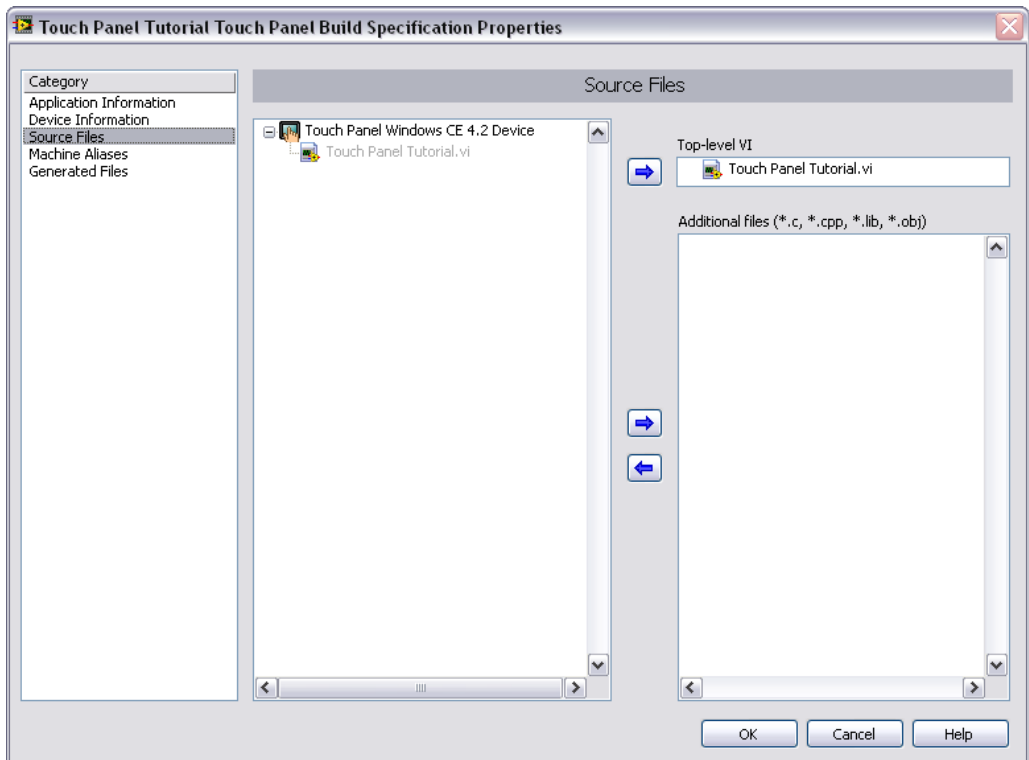

Figure 6. Selecting the Source Files
4. Select the **Source Files** category to select the source files to include when you build the Touch Panel VI into a Touch Panel application. When you use the Touch Panel Project Wizard to create a build specification, LabVIEW automatically uses the VI you import as the top-level VI. When you create build specifications outside of the wizard, you must manually select the Touch Panel Tutorial VI and click the blue arrow button, shown at left, to move the VI to the **Top-level VI** text box as shown in Figure 6. Touch Panel VIs can have only one top-level VI.